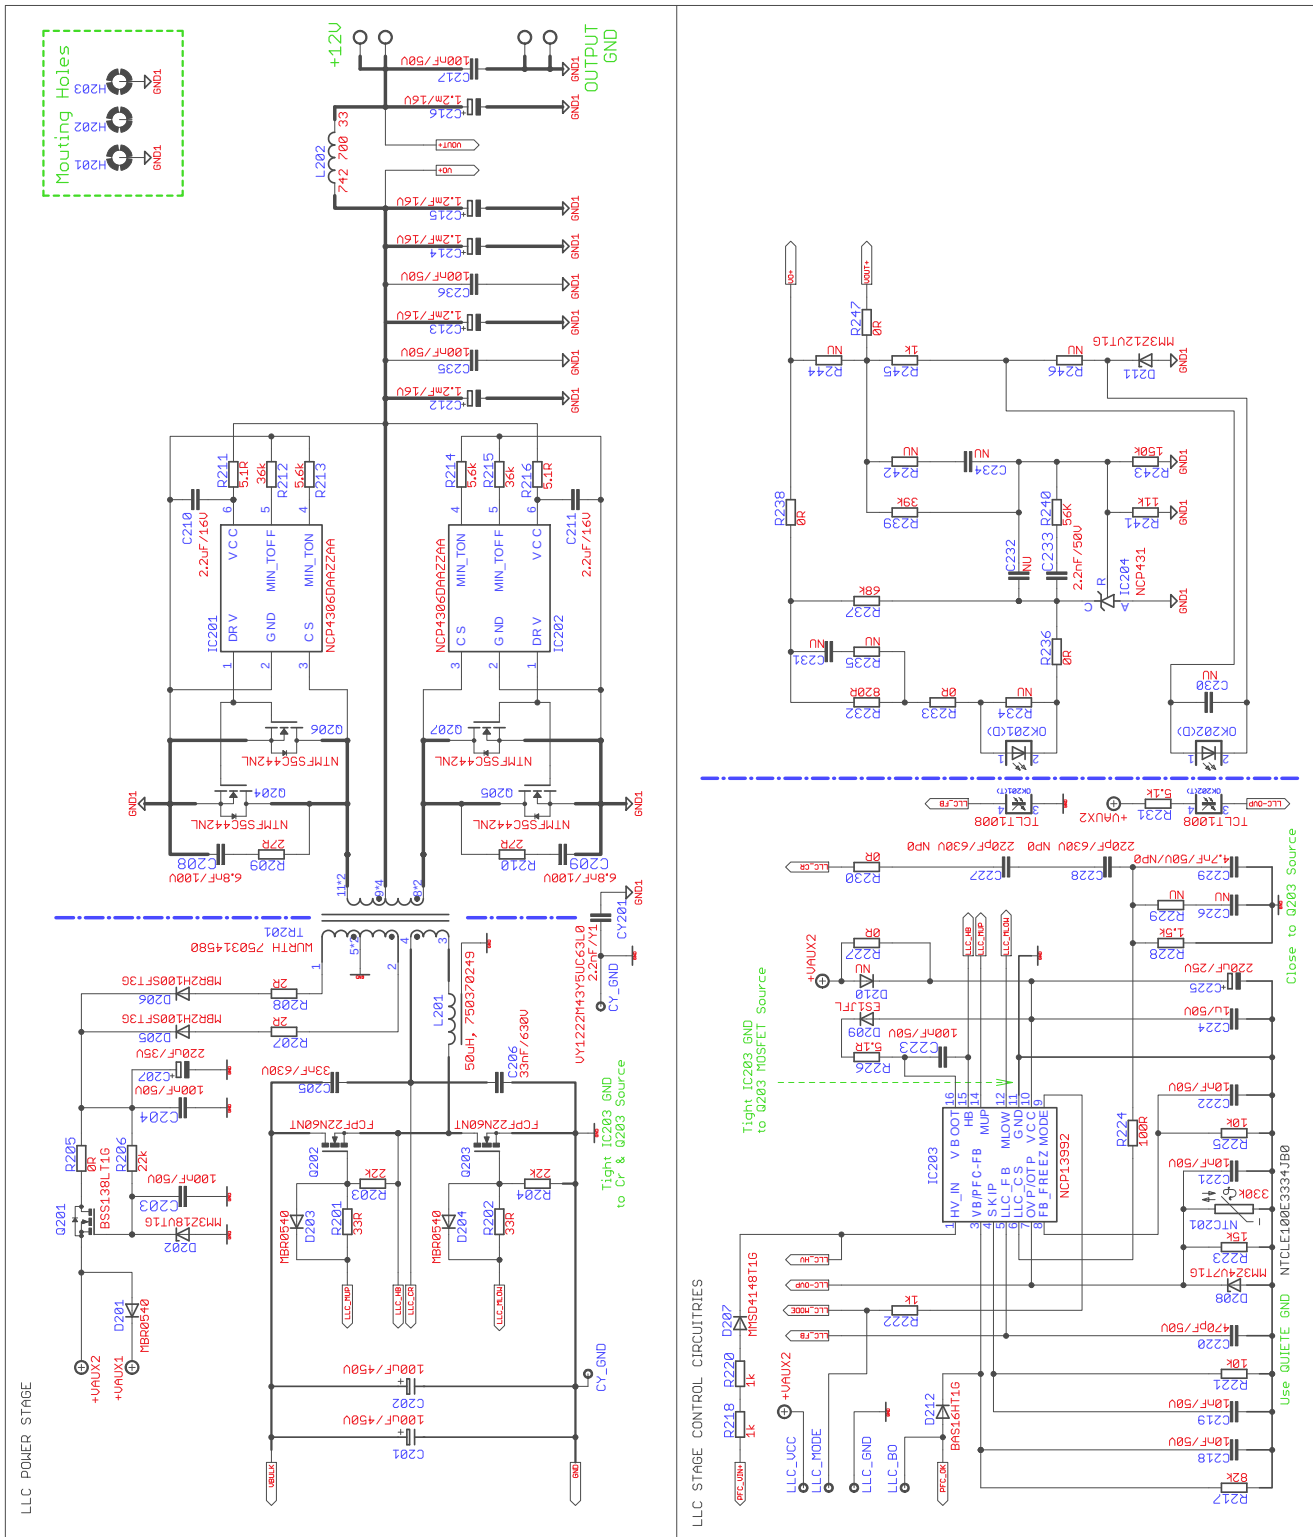

Figure 3. AOI Evaluation Board Schematic – LLC Stage
Entire LLC power stage is displayed in Figure 3. Power stage at primary side of LLC converter is composed of these devices: MOSFETs Q202, Q203, external resonant inductor L201, transformer TR201 and resonant capacitors C205 and C206. The IC203 NCP13992, LLC controller senses primary current indirectly, via resonant capacitor voltage, which is divided down by a capacitive divider, using capacitors C227–C228 and C229. The capacitive divider has to be optimally loaded and in the same time assure fast signal stabilization after application startup. This is achieved by resistor R228. Scaled signal from CS divider passes through resistor R224 which limits maximum current that can flow into the LLC_CS pin. The FB optocoupler OK201 is connected to the LLC_FB pin and defines converter output voltage by pulling down this pin when lower output power is needed. Capacitor C220 forms high frequency pole in FB loop characteristics and helps to eliminate eventual noise that could be coupled to the FB pin by parasitic coupling paths. The VB/PFC–FB pin allows LLC converter operation once input level is approximately above 1.1 V. VB/PFC–FB signal is provided by PFC controller NCP1618, which sources current from PFC–OK pin as aforementioned. VB/PFC–FB pin voltage is filtered by C218. The Skip/REM pin of the NCP13992 is used for skip threshold adjustment. Resistor R221 is used for this purpose together with noise filtering capacitor C219. The over-voltage and over-temperature protections are implemented via OVP/OTP pin by using resistor R223, temperature dependent resistor NTC201, Zener-diode D208, filtering capacitor C221 and optocoupler OK202. Simple OVP detector is located on the secondary side and it's made of resistor R245, Zener-diode D211 OK202 optocoupler diode. The FB_FREEZE pin (8) defines minimum internal feedback voltage (lower saturation level), which influences maximum switching frequency. Resistor R225 sets FB freeze level and C222 decouples noise. The PFC stand-by mode (or PFC soft-skip) is activated by MODE pin (9), which goes high during LLC stage switching and stays low during idle mode— as described in PFC section.